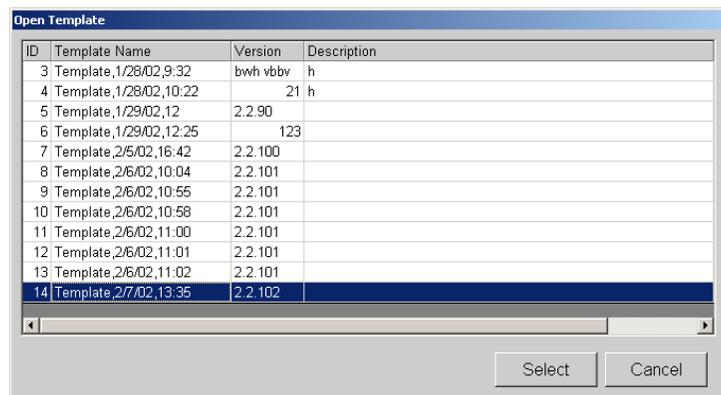

Figure 41 Open Template Dialog Box
1. On the **Home** tab, click **New Lot**. The **Open Template** dialog box opens. See Figure 41.